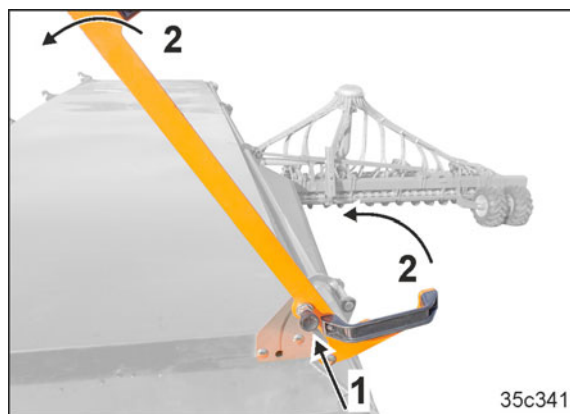

Fig. 254
3. Swivel the lever upwards. Ensure that the spring-loaded pin engages (Fig. 254/1).
The two handles (Fig. 254/2) are used for opening the hopper cover.
The handles (Fig. 254/2) are used to close the hopper cover.